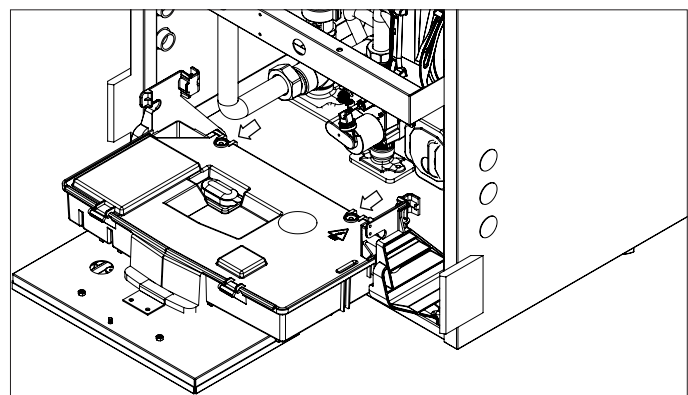

Figure 50 - Disconnecting the Two Clips
6. Disconnect the two clips. See Figure 50.